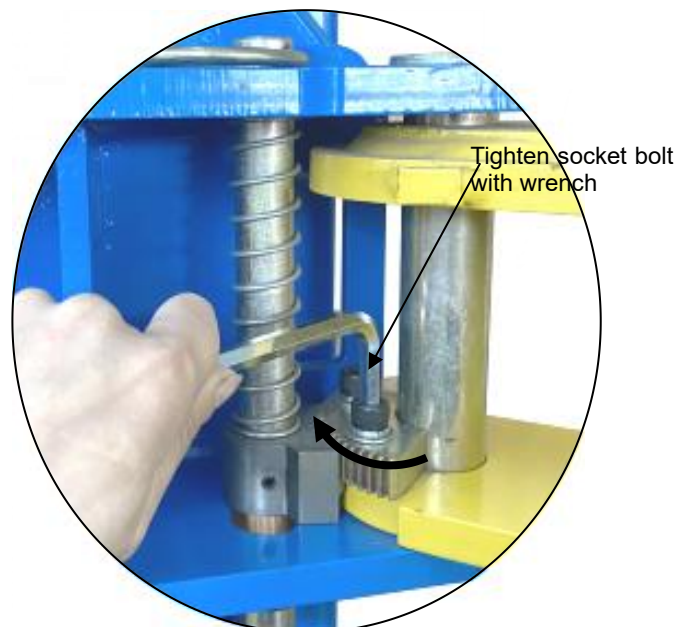

Fig. 37
4. Adjust moon gear and arm locks to make it to be meshed, then tighten the socket bolts of arm lock (**See Fig.37**).